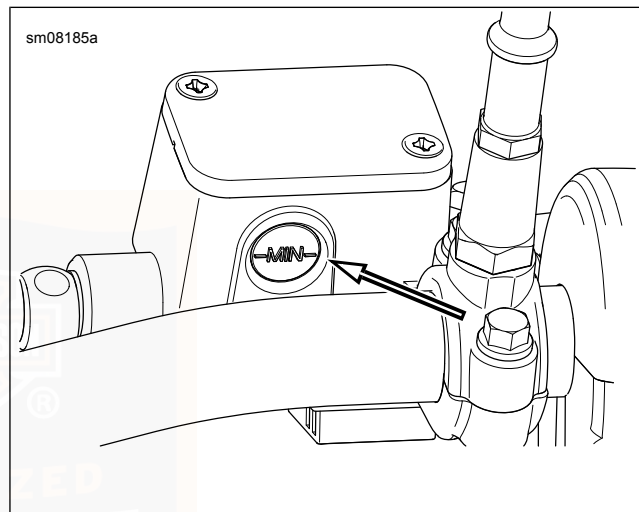

Figure 36. Front Master Cylinder Reservoir Sight Glass
2. **Front:** See Figure 36. Check level in front reservoir sight glass. Level must be above MIN.